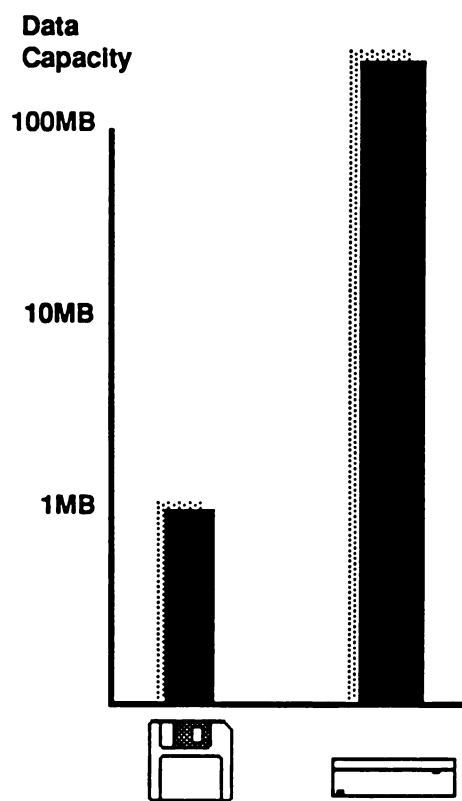

Figure 4. Comparison of storage capacity of a floppy disk and a hard disk
- Hard disks can store much more data than floppy disks. Apple hard disks come in various capacities ranging up to 160 MB, compared to 800K to 1.44 MB that a floppy disk can store. (See Figure 4.)